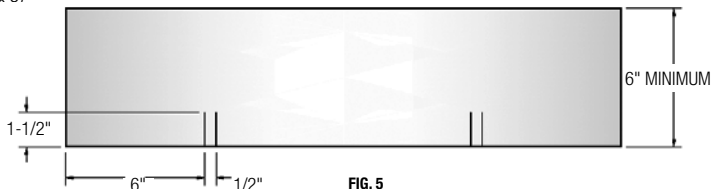

FIG. 5
- B) Measure the width of the rough opening. Cut a length of flashing that is 12" wider than the rough opening. This will allow you to run the flashing 6" up each side. (Fig. 5)
- C) Cut 1-1/2" slits at each end of the flashing as shown below. (Fig. 5)